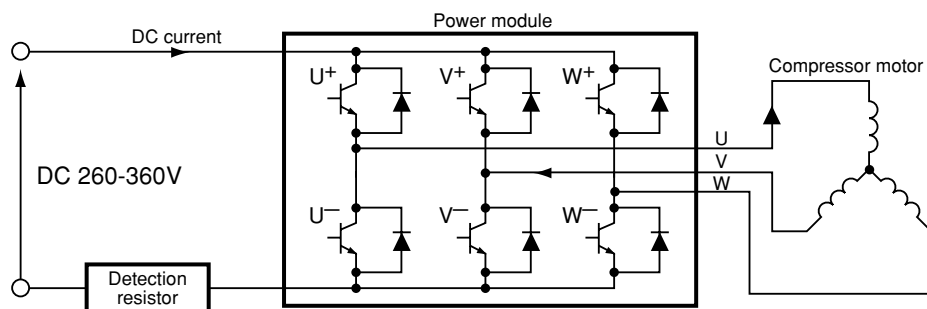

Fig. 8-9
(1) Turns on the power module's U^+ and V^- transistors so the current flows to the motor windings as shown in Fig8-9.